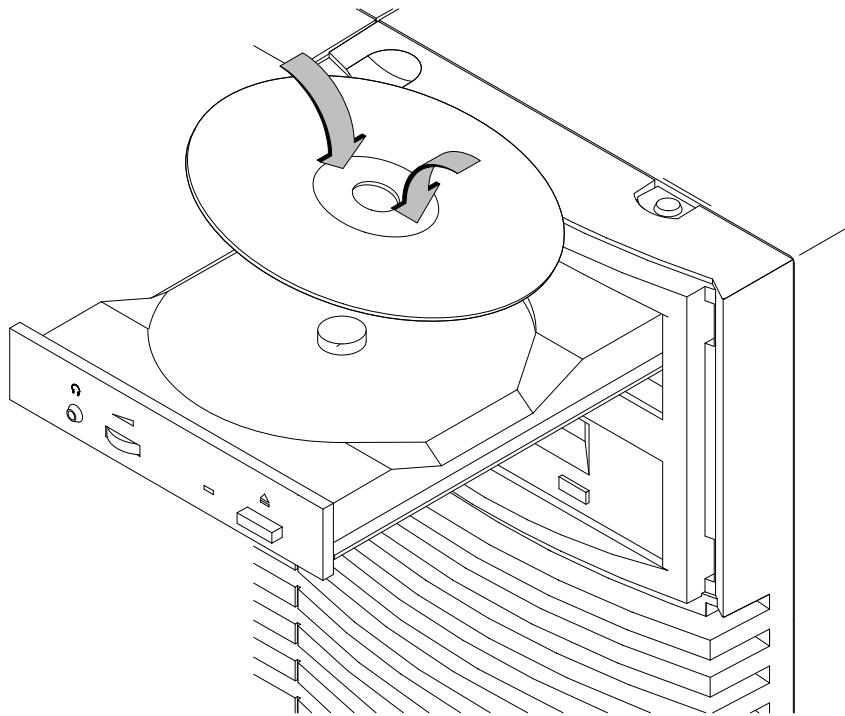

Figure 6–3. Placing the CD-ROM Disc in the Disc Tray
- 4.** Press down gently on the center of the CD-ROM disc to make sure it is seated on the disc tray hub, shown in Figure 6–3.